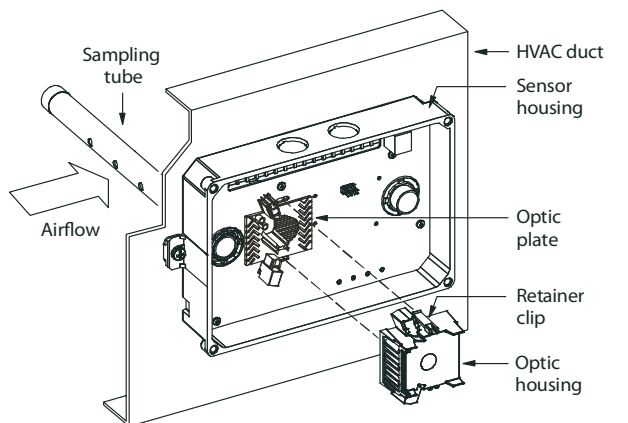

Fig. 10 - Sensor Cleaning Diagram
1. Disconnect power from the duct detector then remove the sensor's cover. (See Fig. 10.)